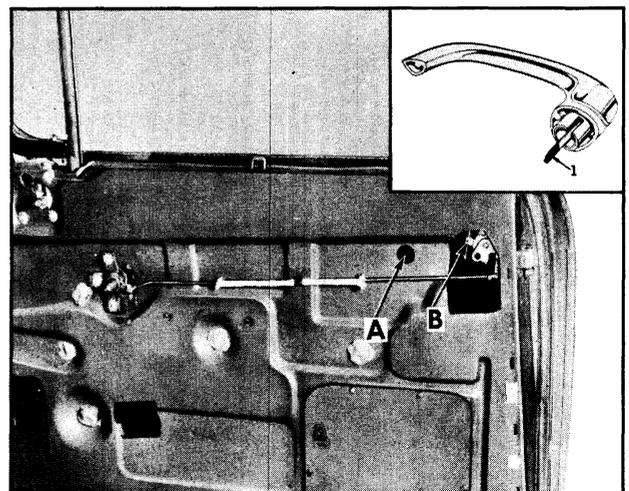

Fig. 17-1 Handle Removal (All Exc. Ft. Dr. HS)
2. Remove tape or rubber grommet covering access hole, then insert screwdriver through holes "A" and "B" to remove handle attaching screws. (See Fig. 17-1)